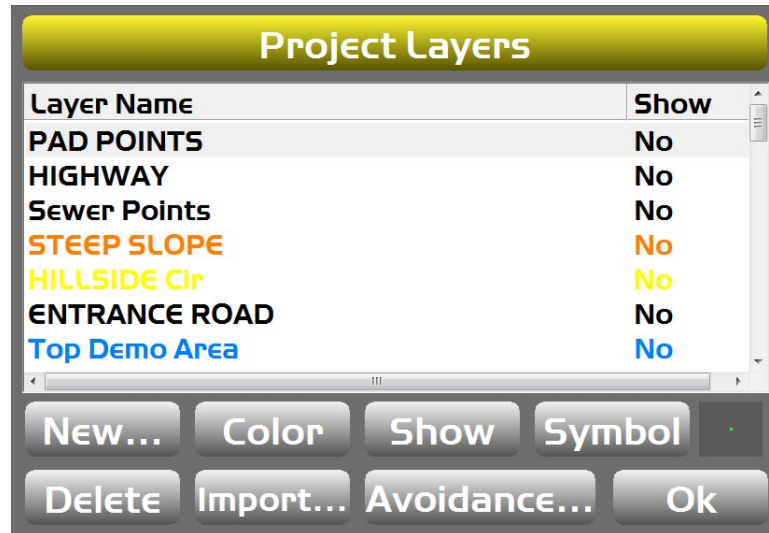

Figure 81: Project Layers Screen
1. Press the Power button on the display, then tap **File ▶ Layers**. The **Project Layers** screen appears (Figure 81).